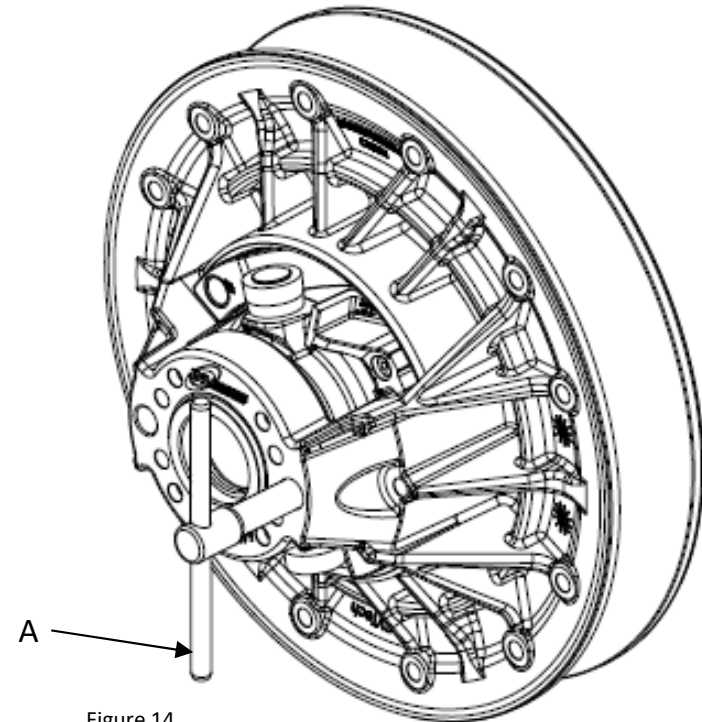

Figure 14
- If the drive belt is installed, screw the flange spreader "A" in the threaded holes, as shown in figure 14, to remove the drive belt.